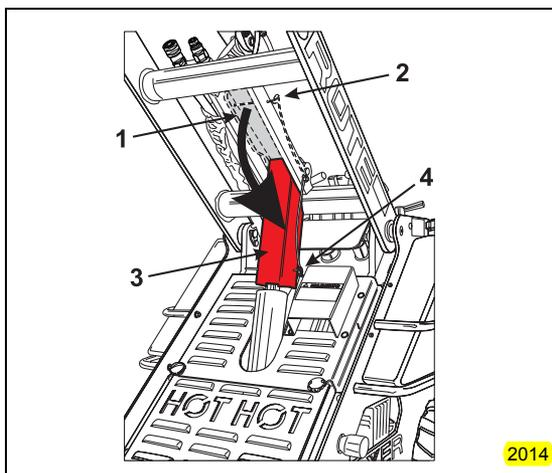

Figure 3–6 Safety Lock Installation
4. While holding the loose end of the cylinder lock (Item 1, Figure 3–6), pull the safety lock pin (Item 2, Figure 3–6) outwards, releasing the cylinder lock.
5. Pivot the cylinder lock downwards to the support position (Item 3, Figure 3–6).
6. Fully reinsert the safety lock pin (Item 4, Figure 3–6), securing the cylinder lock in the support position.
3. Pull the safety lock pin (Item 4, Figure 3–6) fully outwards.
4. Rotate the cylinder lock (Item 3, Figure 3–6) upwards to the storage position (Item 1, Figure 3–6).